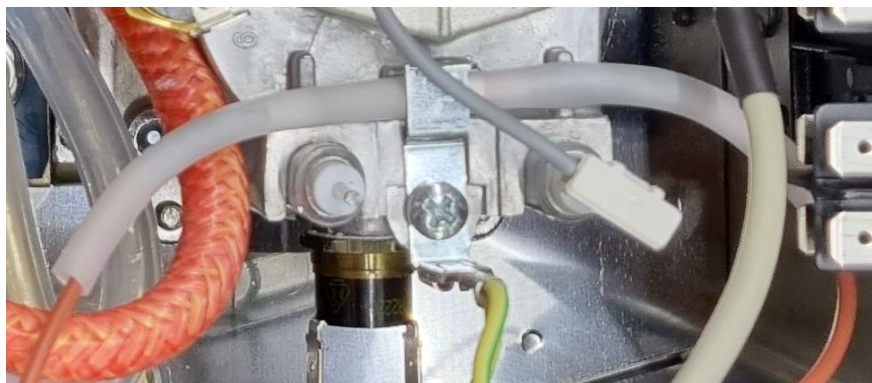

Fig.10.2
- The other wire from the green plug need to go inside all the way to the front passing with the overheat protection over the boiler. Insert the temperature protection under the clamp (fig.10.2). Then return the wire and connect the POWER IN LINE to the original power module LINE IN